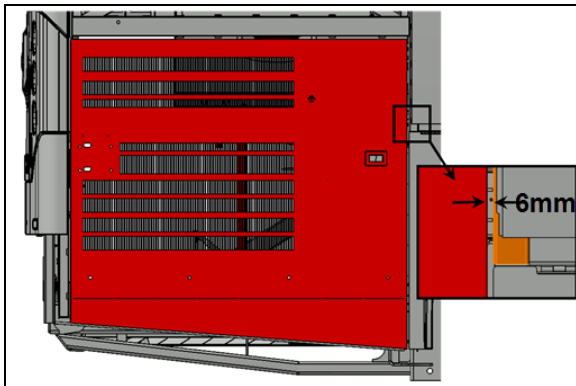

FIGURE 109
5. Check the gap between the door and the adjacent panel at the level of the upper attachment point of the arm on the door. The gap should be $1/4"$ (6 mm) (FIGURE 109).